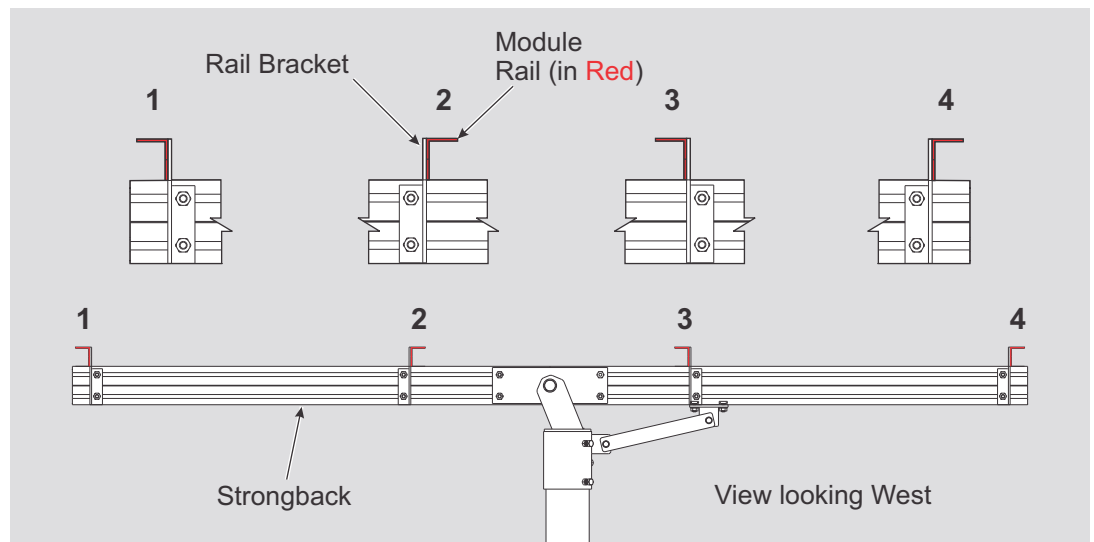
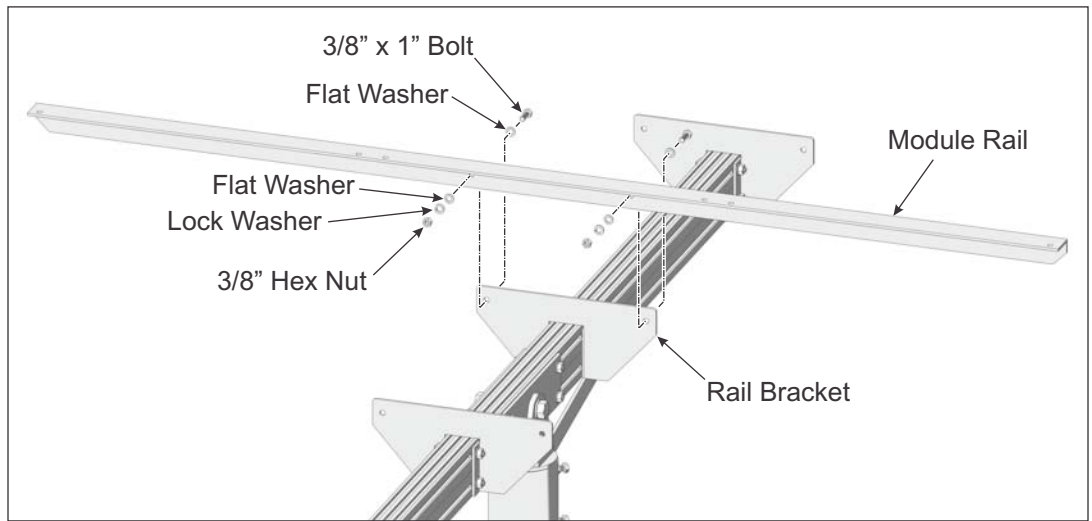

Figure 5-1: Orientation of Module Rails to Rail Brackets
Figure 5-2: Installing Module Rails to Rail Brackets
Module Rail orientation is dependent on location. Follow these instructions carefully for the correct orientation. (See Figure 5-1)
- A. Referring to Figure 5-1 for orientation of the Module Rails, position the first section of Module Rail on the Rail Bracket. Align the Module Rail mounting holes with the holes of the Rail Bracket and secure with 3/8" x 1" bolts and hardware. Finger-tighten for now. (See Figure 5-2)
- B. Continue in this manner and install all remaining Module Rails (three more) while following Figure 5-1 for proper orientation of the Rails to the Cross-Bar mounting tabs.